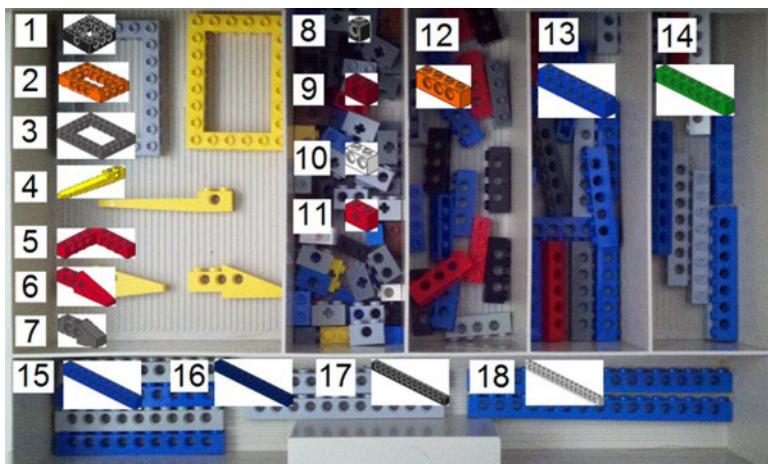

Figure 1-5. A method of storing LEGO Technic Brick in a tackle box drawer
- **Brick:** Any Technic shown in the Technic brick section in Figure 1-5, and some that I didn't show, is here.
When LEGO introduced their "Expert Sets" in the late 1970s, they introduced a new kind of brick. These bricks have holes on the sides for Connector Pegs and Axles (see individual descriptions below). Sometime around 2000, LEGO Technic began to emphasize Beams rather than traditional studded pieces. Most LEGO Technic sets shun these Technic brick pieces now and generally are completely studless. In fact, I can honestly say that I only used a handful of LEGO Technic Bricks in the projects in my previous book. However, if you are a LEGO builder of any type, you could devote an entire drawer in your tackle box or toolbox for these bricks, by length. As you can see, the amount of round holes in the side is usually equal to the amount of studs on top, minus one (with some exceptions). Figure 1-5 shows how I have this arranged in my tackle box, and you can see that I have a large space devoted to Technic Bricks of unusual shapes. You will note that I don't have them separated by color, and not every type of piece has a place by itself. This is because I have very few of some pieces and a lot of another, and it is just easier to group similar pieces together.
Note The numbers in Figures 1-5 through 1-9, 1-12, 1-22, 1-28, 1-37, and 1-38 correspond to the numbers in the parts list that immediately follows the respective figures. I put the official LEGO ID number in parentheses in the list so you can find it on Pick a Brick or BrickLink, if the part is available for purchase.